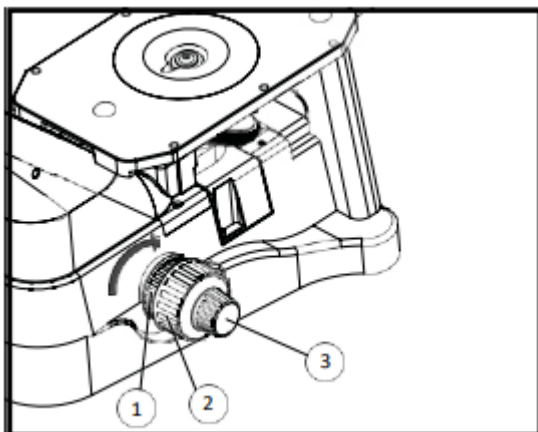

Fig. 16
### Focus Adjustment (Fig 16)
1. Rotate the tension adjustment ring (1) according to the arrow direction in figure 16 to tighten the focus tension; rotate the tension adjustment ring in the opposite direction to loosen the tension.